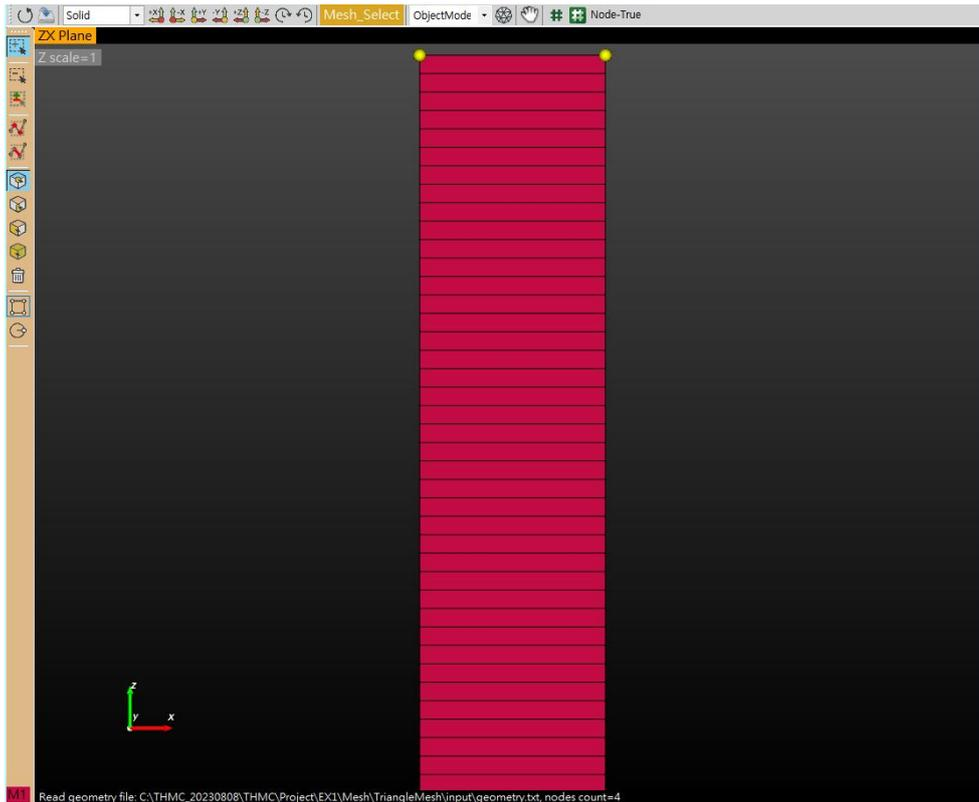

Figure 1.18. The window screen after the two top nodes have been selected.
11. To select the nodes located at the top of the area of interest, drag to select the two top nodes. The window screen appears as shown in Figure 1.18.